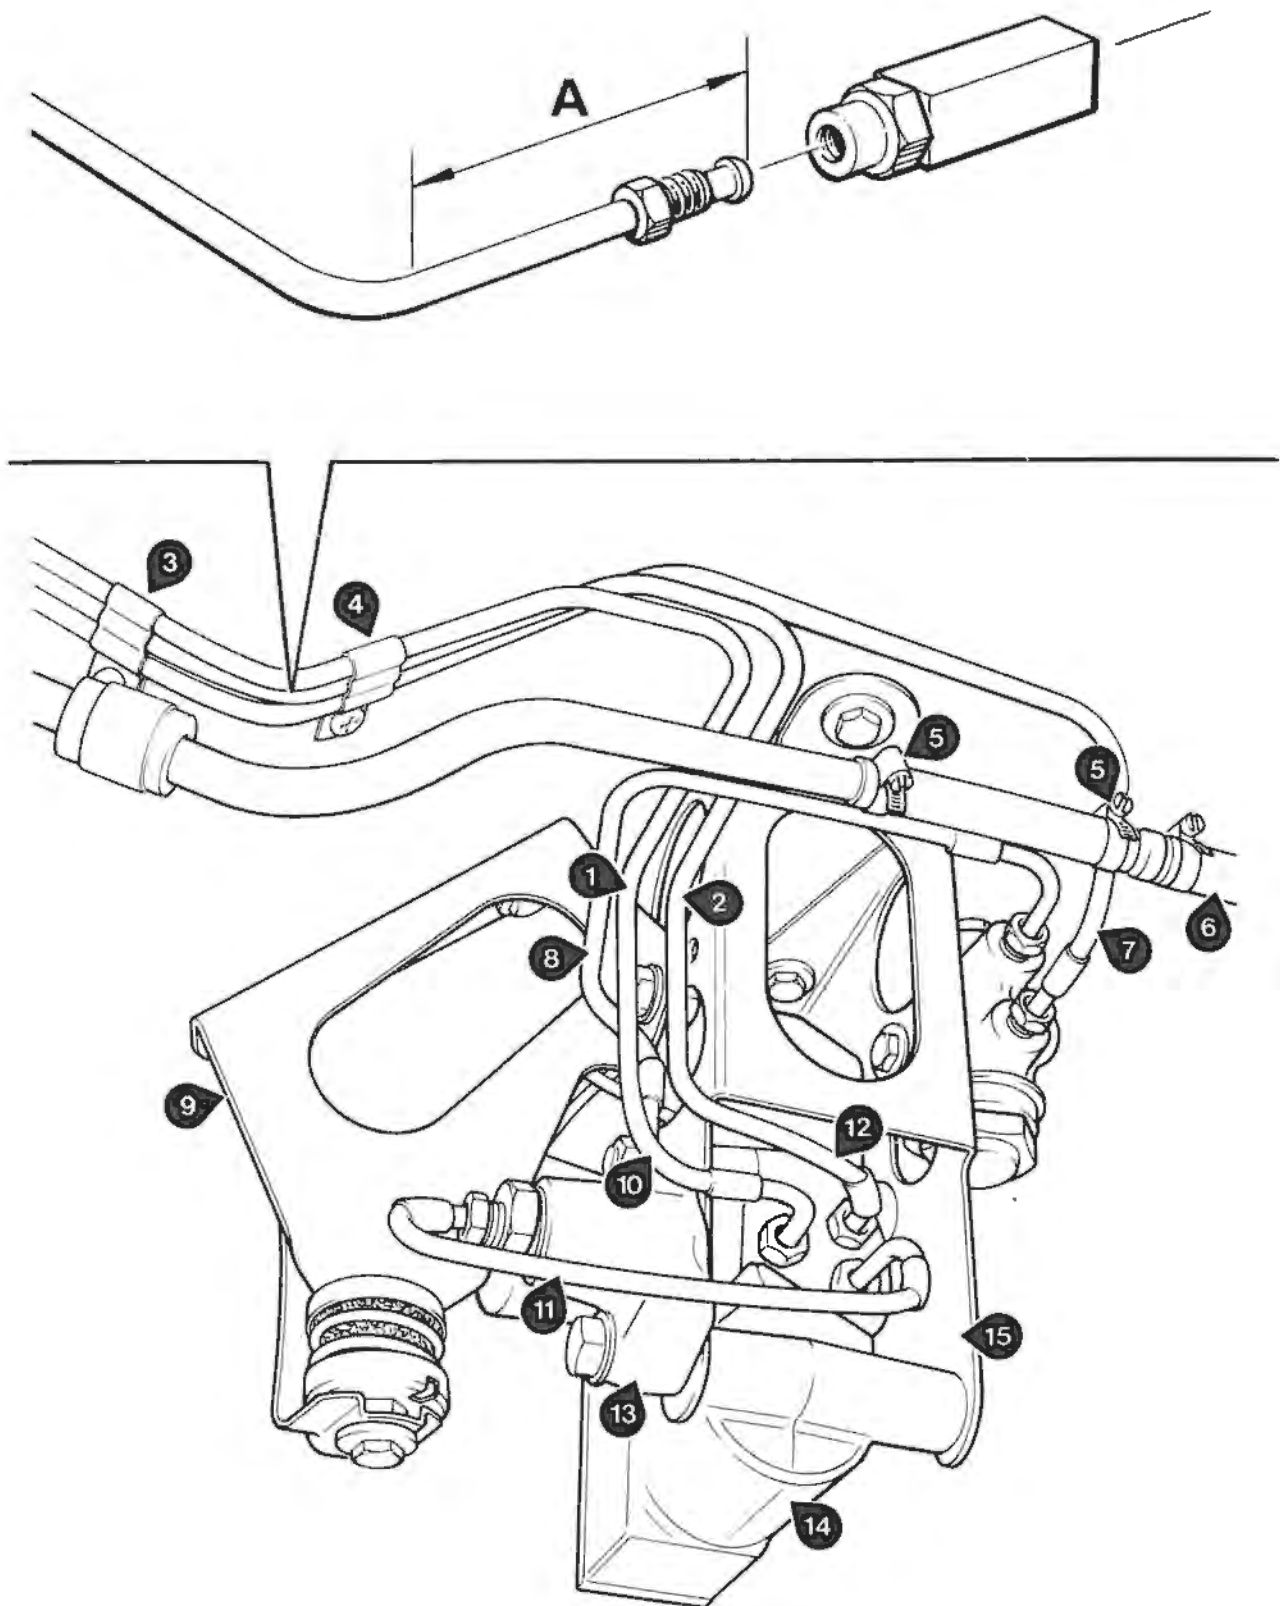

Fig. 1
- 7 Clamp the hose in the fuel return line, on the fuel tank side of the non-return valve (see fig. 1, item 6). (Cars other than Turbo and petrol injection models).
- 8 Slacken the clips (see fig. 1, item 5) and remove the hose from the non-return valve.
- 9 Remove the clips securing the hydraulic pipes to the underfloor of the car (see fig. 1, items 3 and 4).
- 10 On cars fitted with hydraulic filters adjacent to the priority valve, lower the priority valve to height control valve pipe (see fig. 1, item 12). Using a pipe cutter, cut the pipe at the third bend from the end of the pipe (see fig. 1, item 2).
- 12 On earlier cars without filters, cut and flare the priority valve to height control pipe (see fig. 1, item 12) at the position marked A in figure 1 i.e. 44mm (1.75 in) from the bend. The filter can then be fitted in the position indicated.
- 13 Lower the height control valve to reservoir return pipe (see fig. 1, item 10). Cut the pipe (see fig. 1, item 1), fit a unified pipe union and reflare the pipe.